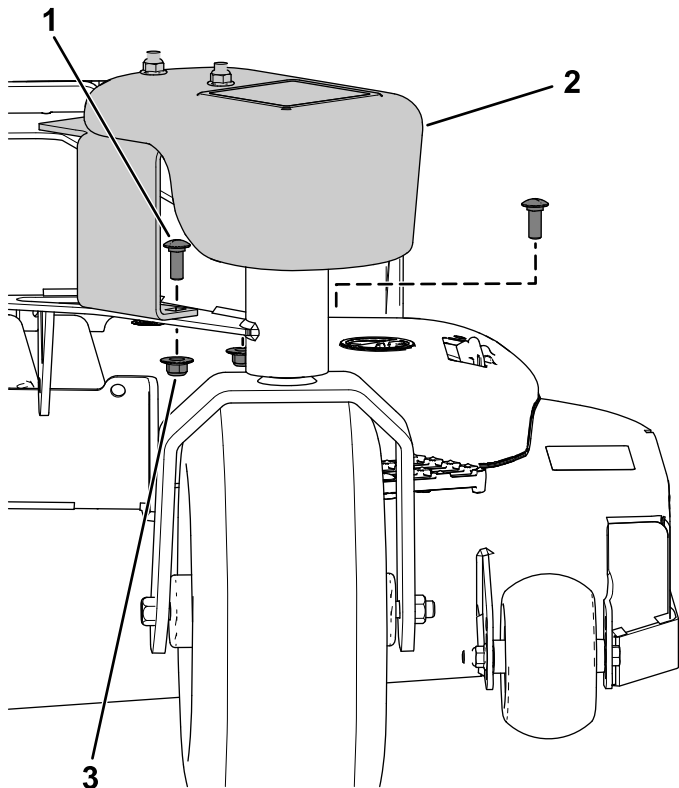

Figure 5
1. Secure the weight to the caster arm using 2 carriage bolts (3/8 x 1 inch) and 2 flange nuts (3/8 inch) as shown in Figure 5.